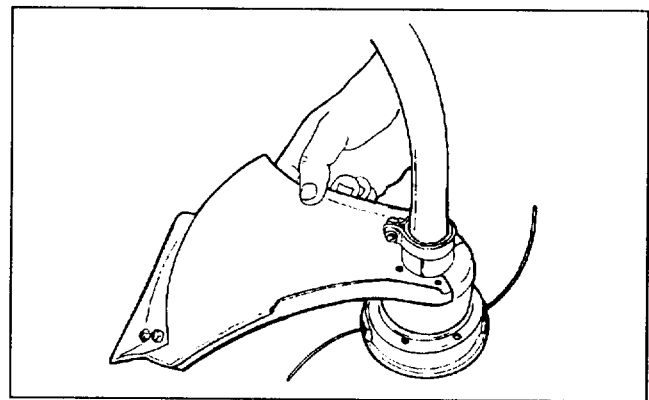

Fig. 3
2. Push the line guard down to the top of the cutting head assembly and rotate the line guard to the proper position (Fig. 3). The line guard is in the correct position when it points toward the engine and the screw holes in the guard line up with the screw holes in the top of the cutting head assembly.